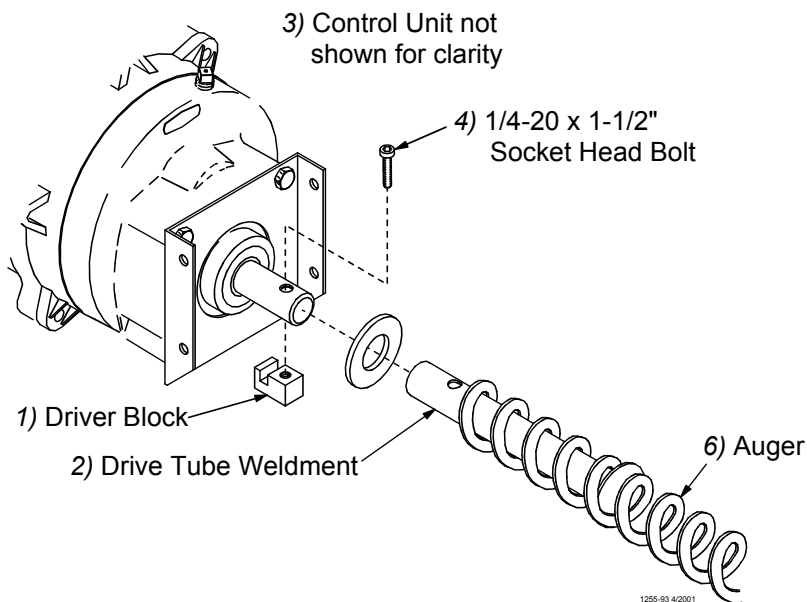

Figure 38. Auger Driver Components
4. Slide the Drive Tube and flat washer over the output shaft on the Power Unit, as shown in **Figure 38**.
6. Turn the Drive Tube Weldment into the auger, then attach to the output shaft of the Power Unit, as shown in **Figure 38**. Use the Driver Block to secure the auger to the Output Shaft.